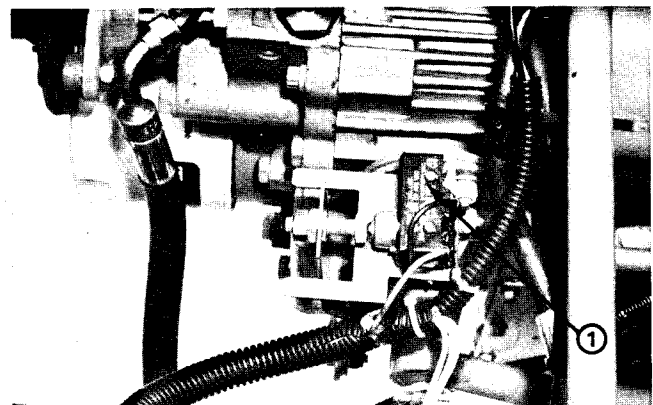

Figure 13
A traction switch is a normally closed (NC) switch (traction pedal in neutral) located on the right-hand side of the hydrostatic transmission (Fig. 13). It is activated by the traction control lever located on the side of the transmission.
**IMPORTANT:** The traction switch has three (3) terminals. Make sure the wires are connected to the "COMMON" and "NO" terminals.